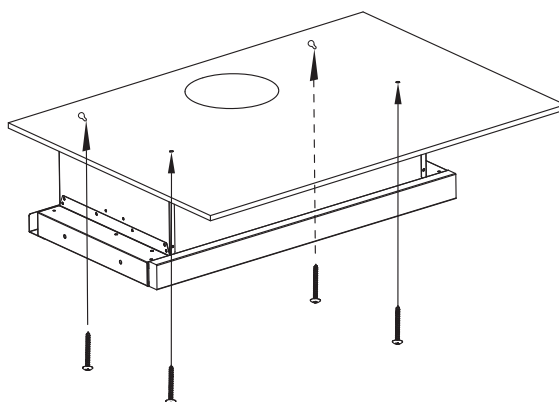

Fig. 13
- Install the rangehood onto the bottom of the cupboard, take away the Aluminum Filters,mark two Horn-shape holes and drill those 2 holes of  $\varnothing 4$ mm at the bottom of the hanging board of your cabinet (Fig. 13).
- Secure two Horn-shape holes in place with 2 ST4x30mm. screws. Tighten the screws, but leave a 2mm gap so that you can hang the rangehood on the screws in the keyhole slots.(Fig 13)
- Hang the hood to the cabinet screws and make sure the hood is in balance and positioned correctly, and then secure the rest two holes in place with 2 ST4x30mm screws (Fig 13).